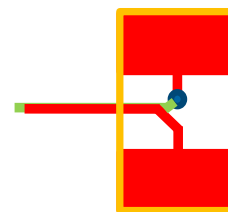

FIGURE 11. RECOMMENDED LAYOUT PATTERN FOR CURRENT SENSE TRACES REGULATOR
13. For the current sensing traces close to the power sense resistor ( $R_{SENx}$ ), the layout pattern shown in Figure 11 is recommended. Assuming the  $R_{SENx}$  is placed in the top layer (red), route one current sense connection from the middle of one  $R_{SENx}$  pad in the top layer under the resistor (red trace). For the other current sensing trace, from the middle of the other pad on  $R_{SENx}$  in top layer, after a short distance, via down to the second layer and route this trace right under the top layer current sense trace.